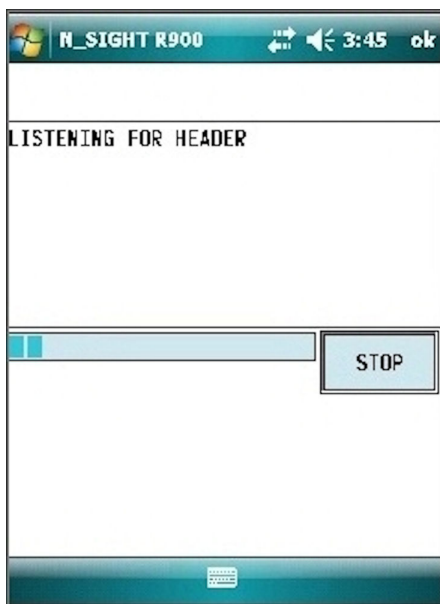

Figure 56 – Listening for Data
The R900 BCT activates the L900 MIU and listens for the data logger to start transmitting. See Figure 56.
2. Click **GRAPH** (see Figure 56) to display the data in a graph. Examples of graphs are shown in Figure 59 on the next page.